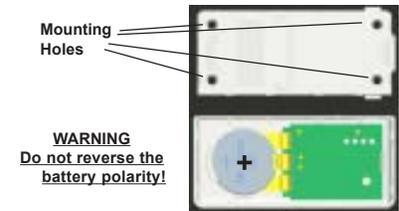

Figure 2. ELK-6021 Sensor & Backplate
2. **Observe correct polarity** when installing the new battery (see Fig 2). Be careful to not bend or damage the metal contact leads holding the battery.